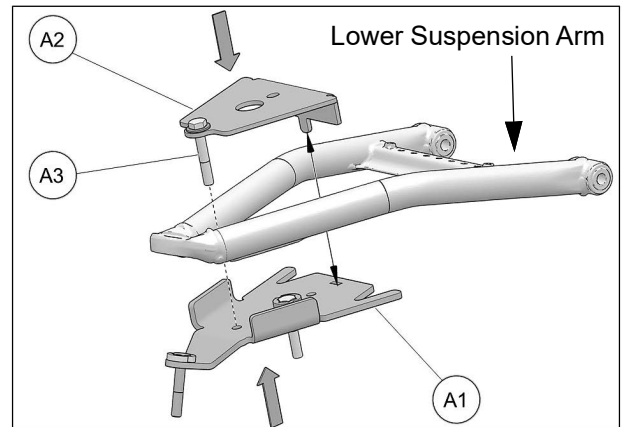

Fig. 28
11. Position cover plate (A2) over lower suspension arm. Lift anchor bracket (A1) under suspension arm and insert bolt (A3) and tenon in matching holes, as shown in the figure below. See Fig. 28